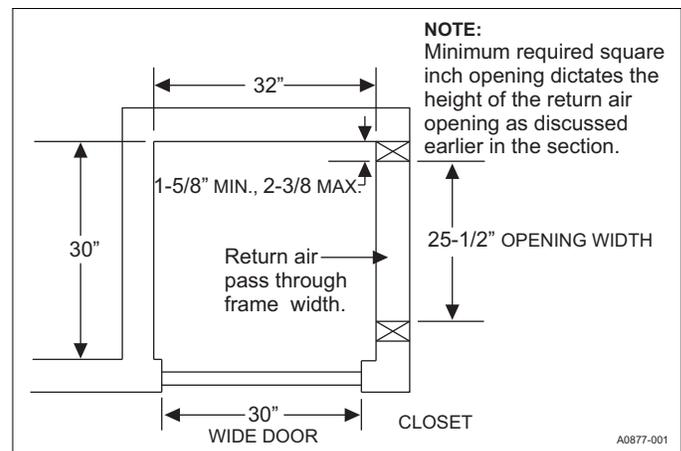

Figure 3: Upflow closet clearances
- Refer to the unit rating plate for the EBE/EUE model number, and then see the dimensions page of this instruction for supply air plenum dimensions in Figure 3. The plenum must be installed according to the instructions.